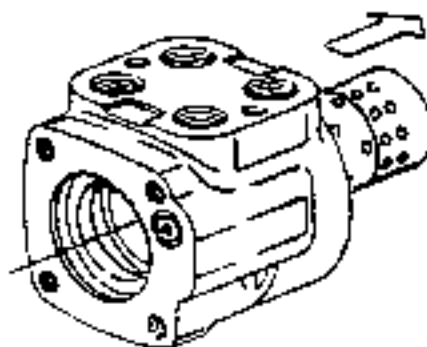

Figure 9
16. Remove spool and sleeve assembly from 14 hole end of housing, see Fig. 9.